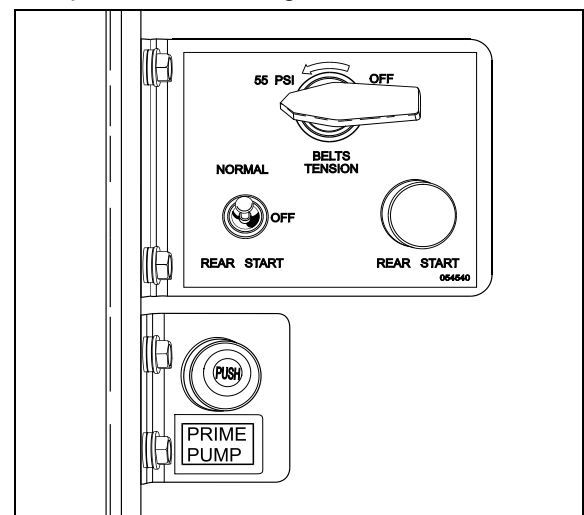

FIGURE 10: PRIME PUMP SWITCH LOCATION 03033
- If the vehicle is equipped with the optional priming pump see Figure 10.